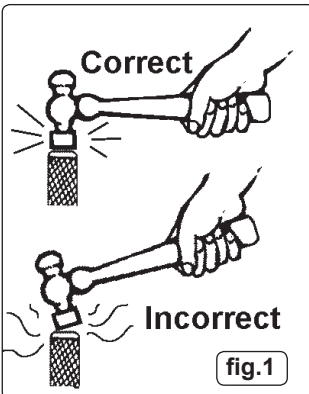

fig.1
- ✓ Strike the driver squarely on the head - **DO NOT** hit the tool off centre, or at an angle (fig.1).